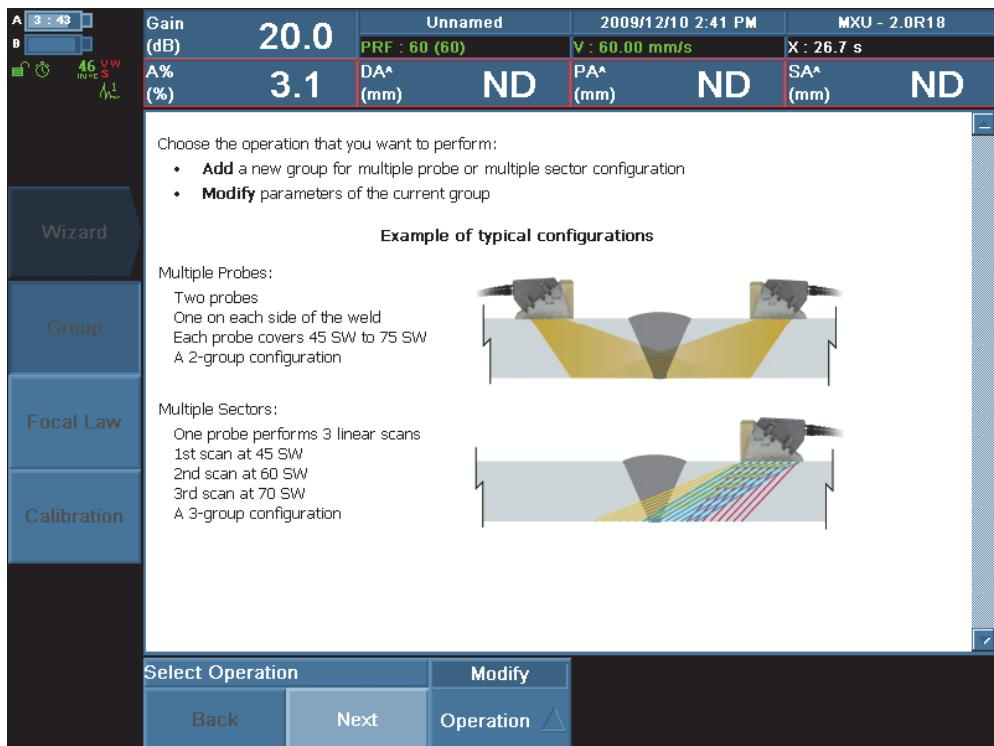

Figure 2 The Select Operation step of the Group wizard
1. On the OmniScan, choose **Wizard > Group > Start** to begin defining the setup. The first wizard step help appears, showing you how to proceed with the **Select Operation** step (see Figure 2 on page 9).